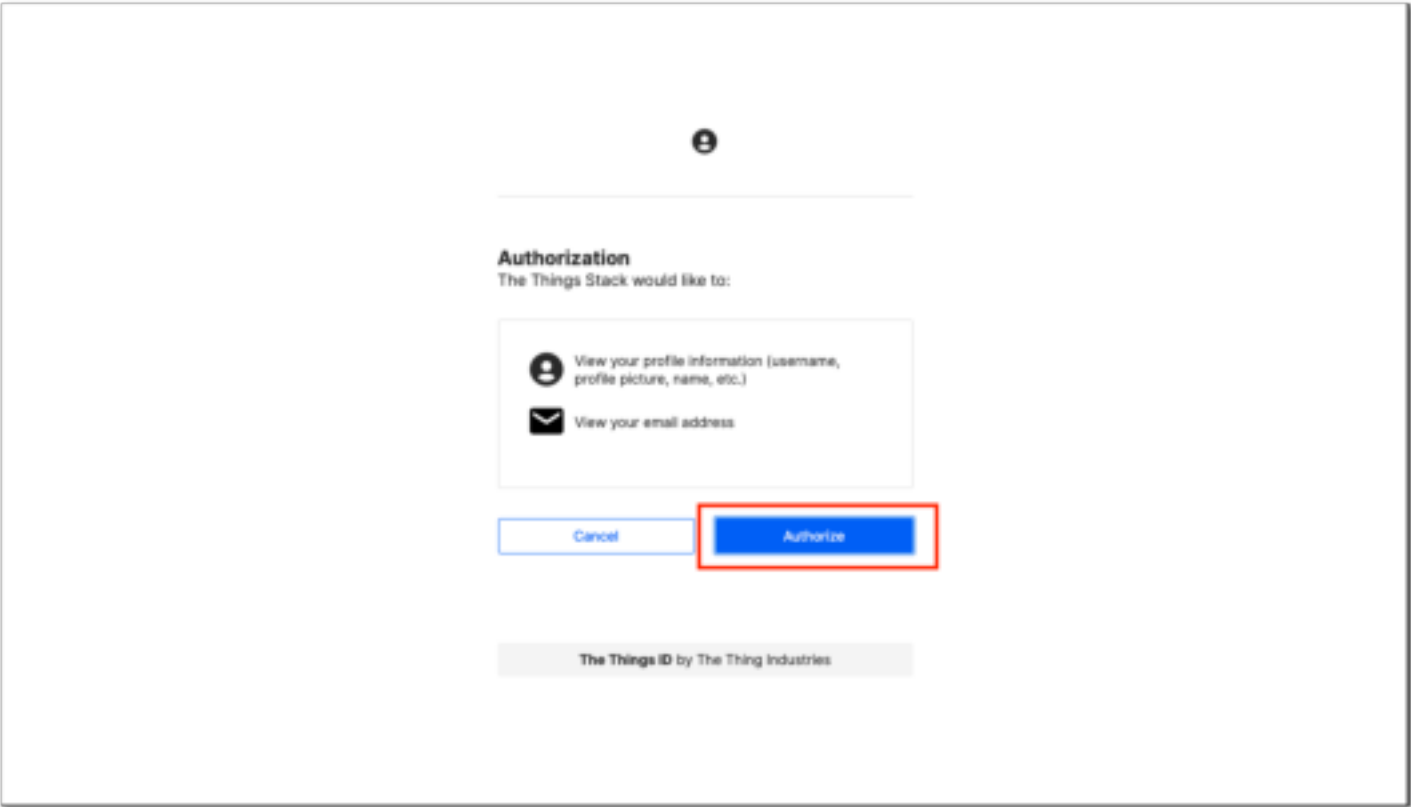

Figure 41: Authorization to TTN
2. To register the module, click first **Manually** then configure the activation method by selecting **Over the air activation (OTAA)** and compatible **LoRaWAN version** then click the **Start** button, as shown in **Figure 40** and **Figure 41**.